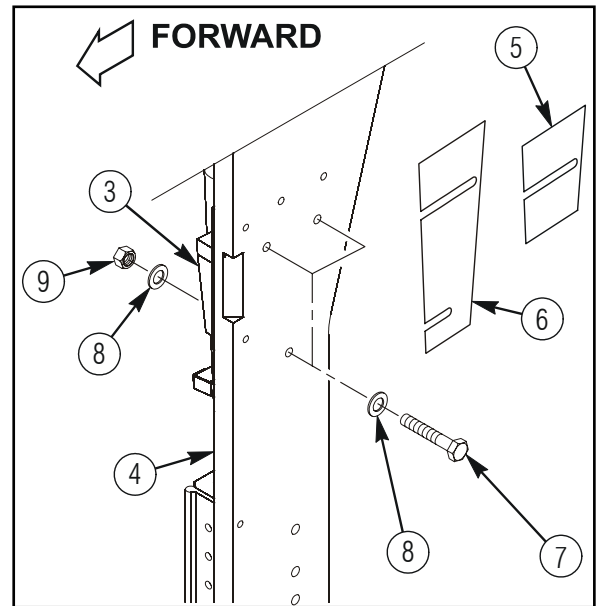

Figure 13c.
19. Secure left turret support tube bracket subassembly (3) to left B-pillar plate (4) with three 4397000-040 capscrews (7), six 4397005-013 washers (8), and three 4397064-003 locknuts (9) as shown in figure 13c (4397005-013 washer (8) may be substituted with 4397005-012 washer if washer interferes with turret support tube bracket subassembly (3)). Install existing B-pillar bracket spacers (5 and 6) as required, and tighten locknuts (9) or capscrews (7) to 21 lb-ft (28.5 N·m). Remove clamp from B-pillar plate (4) and vehicle B-pillar (2).